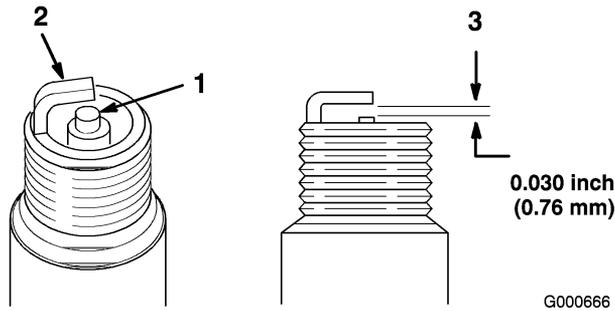

Figure 37
1. Look at the center of the spark plug(s) (Figure 37). If you see light brown or gray on the insulator, the engine is operating properly. A black coating on the insulator usually means the air cleaner is dirty.
2. Check the gap between the center and side electrodes (Figure 37). Bend the side electrode (Figure 37) if the gap is not correct.